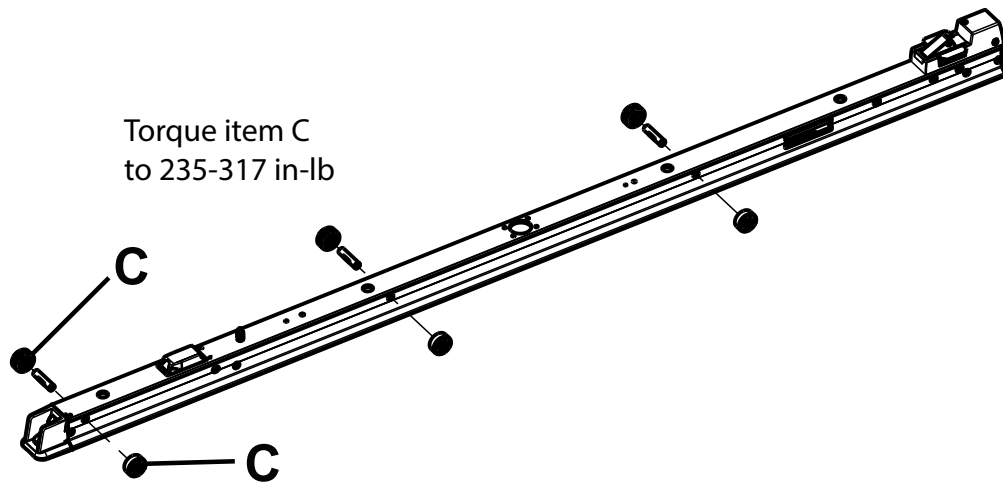

Figure 46 – Remove the flat roller assembly and V-guide roller assembly
7. Using a 1/4" hex wrench, remove the two screws (C) that secure the flat roller assembly and the V-guide roller assembly on the foot end of the anchor assembly (Figure 46). Save the screws.